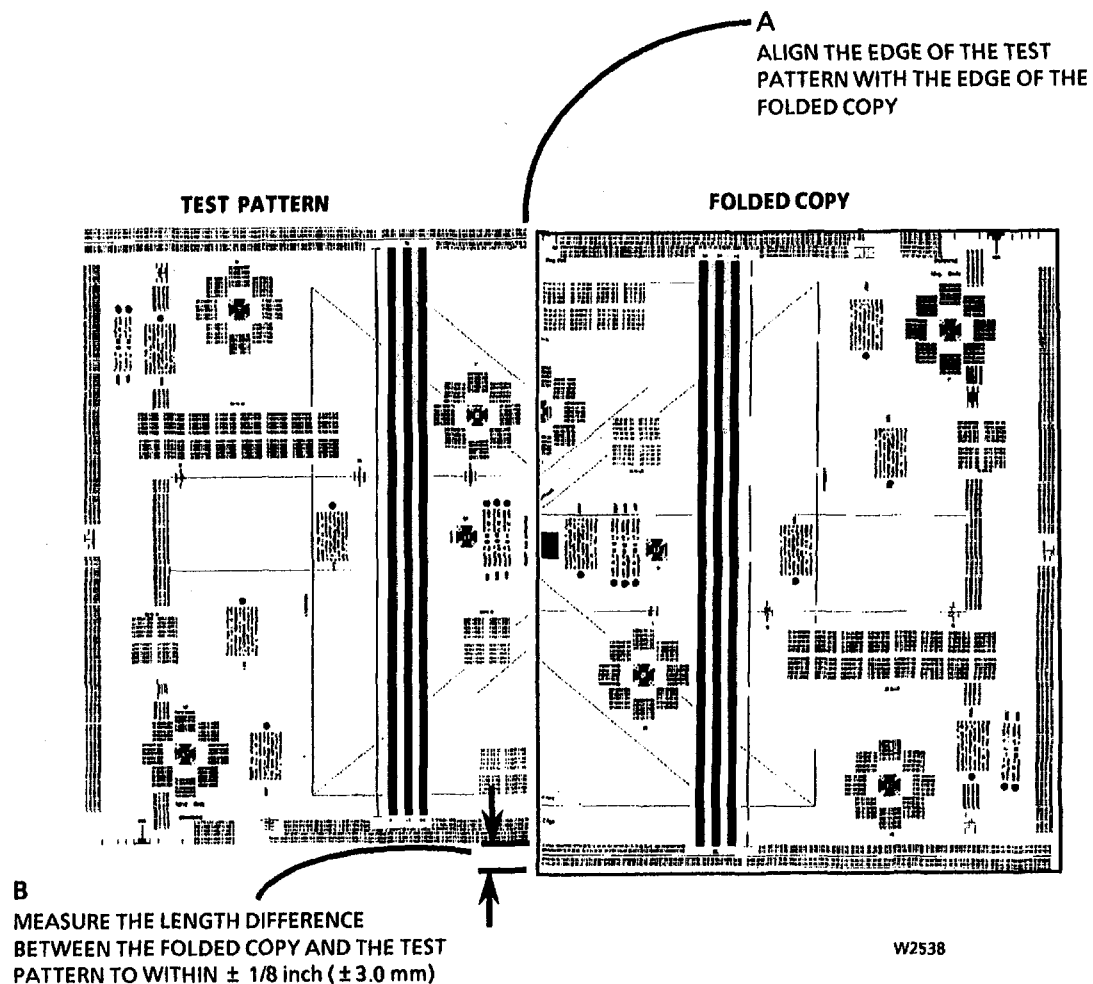

Figure 2. Measure the Length Difference Between the Test Pattern and the Copy
3. (Figure 2): Check the length difference between the test pattern and the copy.